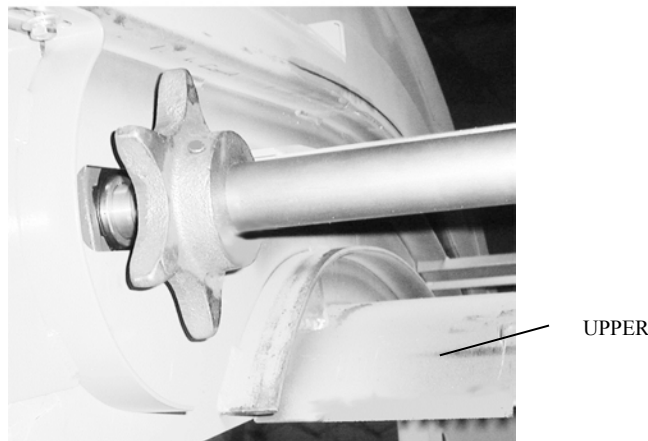

Figure 17: Interior of Conveyor Discharge
9. Facing the discharge opening, pull on the lower half of the metal belt until the upper run clears the headshaft; lower the lower run onto the upper curve (Figure 17).
13. Via the discharge opening, drive out the sprocket pin on the drive end of the headshaft (Figure 17), or loosen set screws in hub if keys are used. With the sprocket now free to move, slide the sprocket toward the non-drive side of the headshaft.